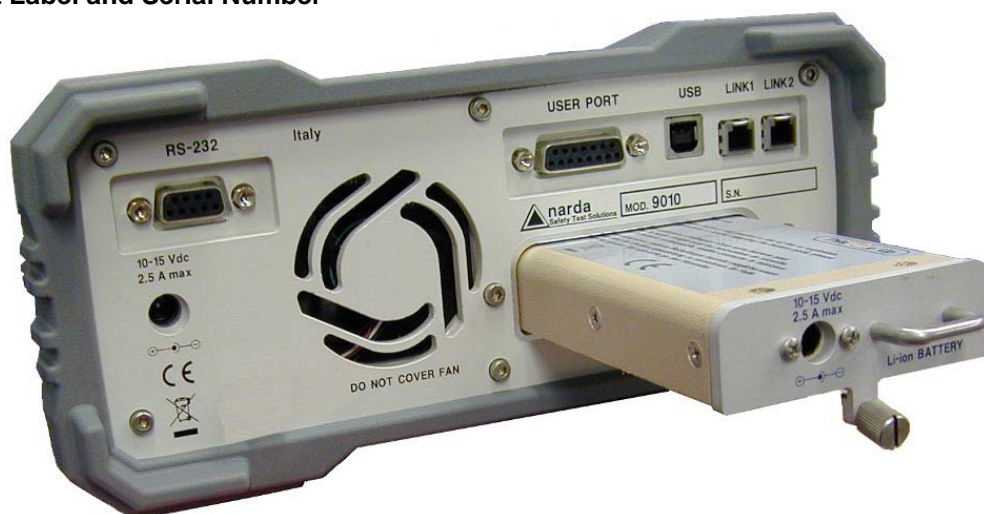

Fig. 1-3 BP-01 Replaceable Battery
- **Replaceable Li-Ion Battery (Fig. 1-3) with main Battery Charger connector**